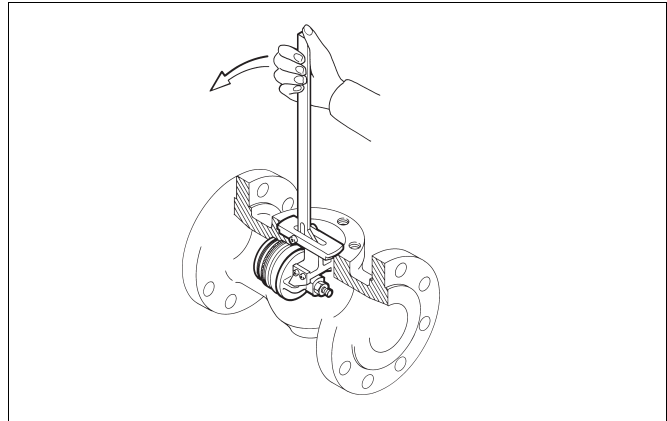

Fig. 13 Using a tool to pull out the seat
- ❑ Remove the seat (7). You may use a tool to pull out a seat that has been installed by means of O-rings, see Fig. 13.
Push the seat into the body by hand; the final installation is done using a tool (in the reverse order compared to the disassembly, see Fig. 13) or a plastic hammer.